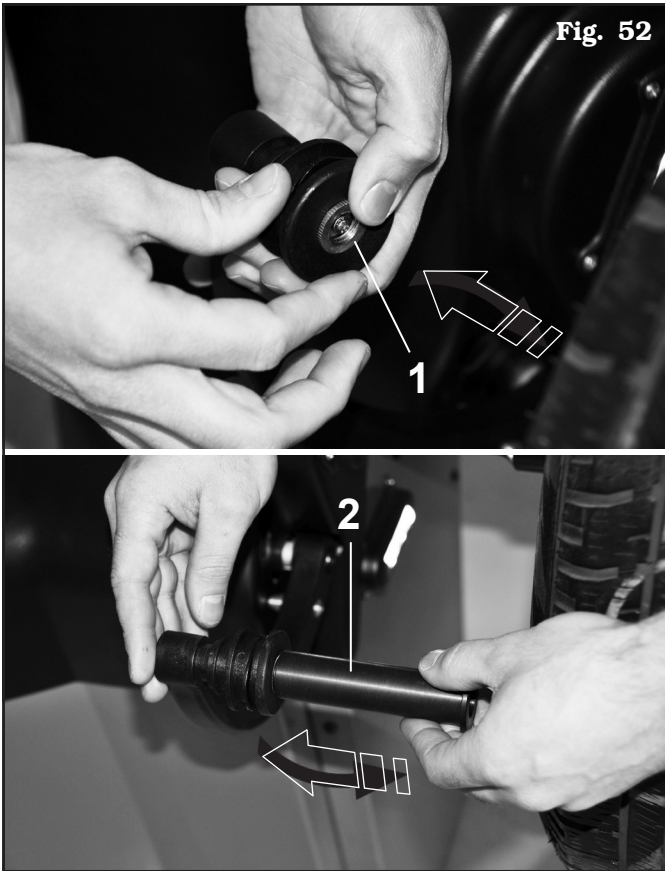

Fig. 52
To fit the extension (**Fig. 52 ref. 2**), first press the threaded ring nut (**Fig. 52 ref. 1**) in the hole provided and then screw the plastic terminal (see **Fig. 52**).